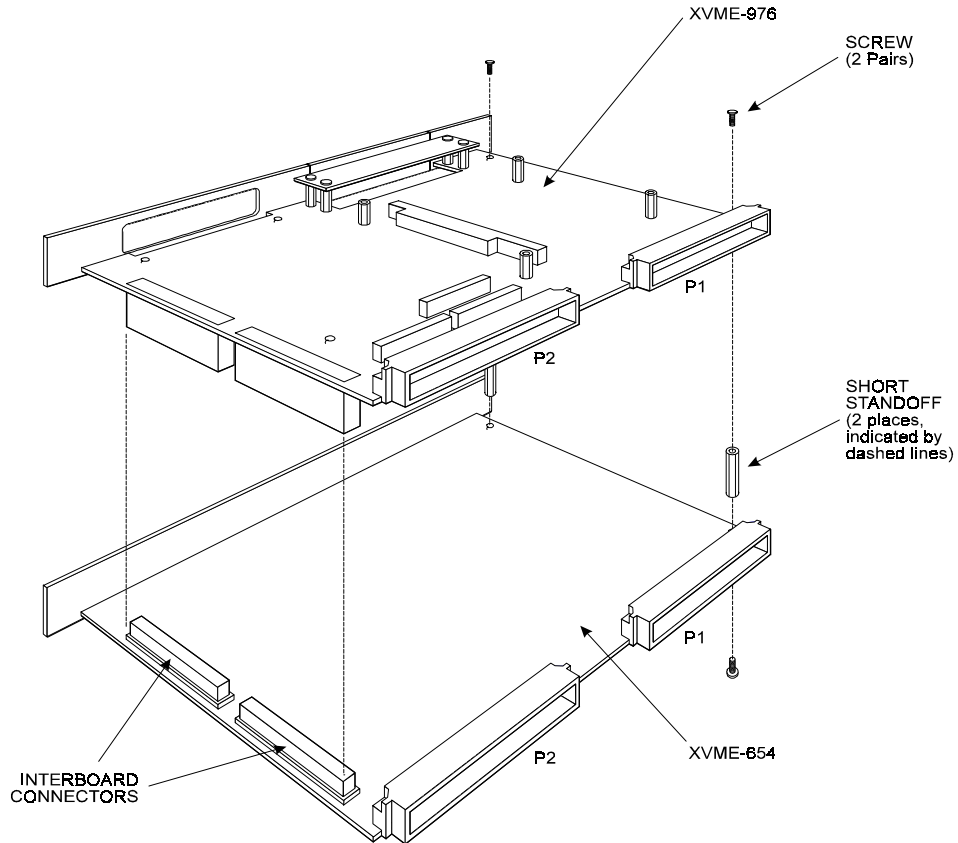

Figure 1-1. Installing XVME-976 onto XVME-654
8. Add standoffs (2) and standoff screws (2 pairs) as illustrated in Figure 1-1.